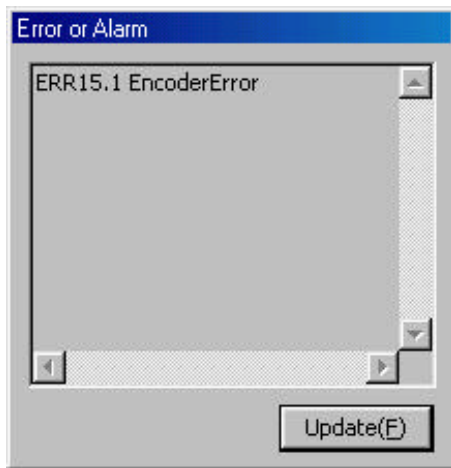

Figure 7.37 "Error or Alarm" dialog box
- 1) If an error occurs, "Error" is displayed in the error display text field. Click "*Error or Alarm (L)*" to display the "Error or Alarm" dialog box (see Figure 7.37). To reset an error status, click "*ErrReset (R)*."